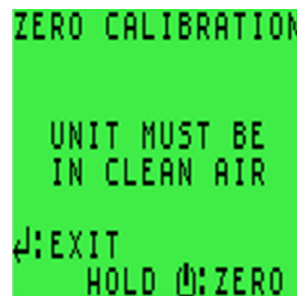

Figure 55: ZERO CALIBRATION Screen
2. Continue holding the button until the self test finishes and the LCD displays **ZERO CALIBRATION**, as shown in Figure 55: ZERO CALIBRATION Screen.